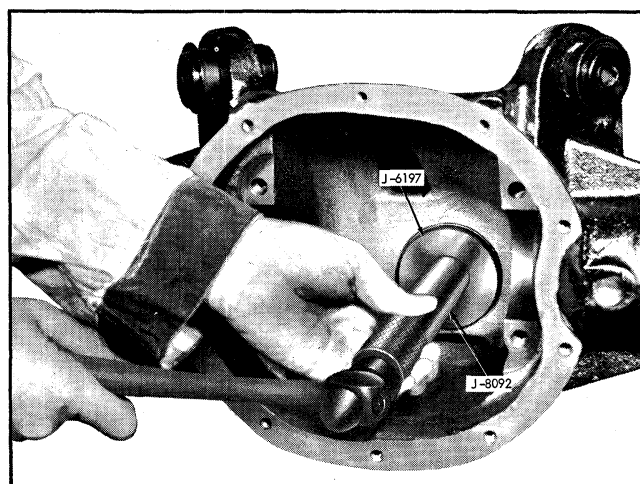

Fig. 4-33 Installing Rear Pinion Bearing Outer Race
1. If rear pinion bearing is to be replaced, install new outer race using installer J-6197 with driver handle J-8092. See Fig. 4-33.